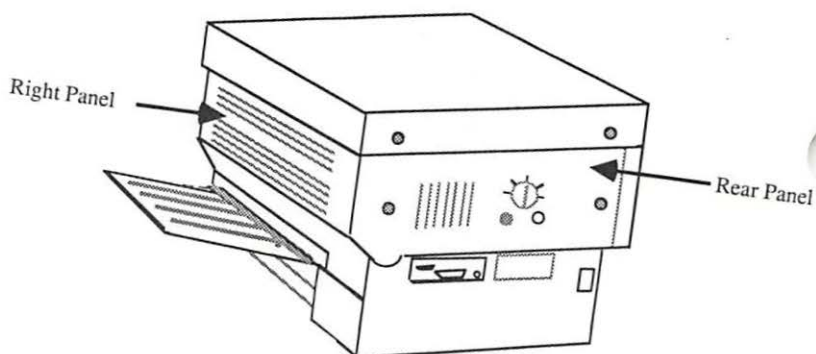

FIGURE 2-4: REAR VIEW
C. Right Panel (See Figure 2-4, next page)
D. Rear Panel (See Figure 2-4)